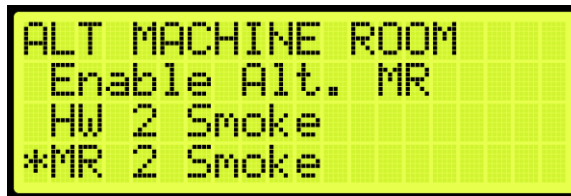

Figure 616: ALT MACHINE ROOM Menu – MR 2 Smoke
3. From the ALT MACHINE ROOM menu, scroll and select MR 2 Smoke (See Figure 616).